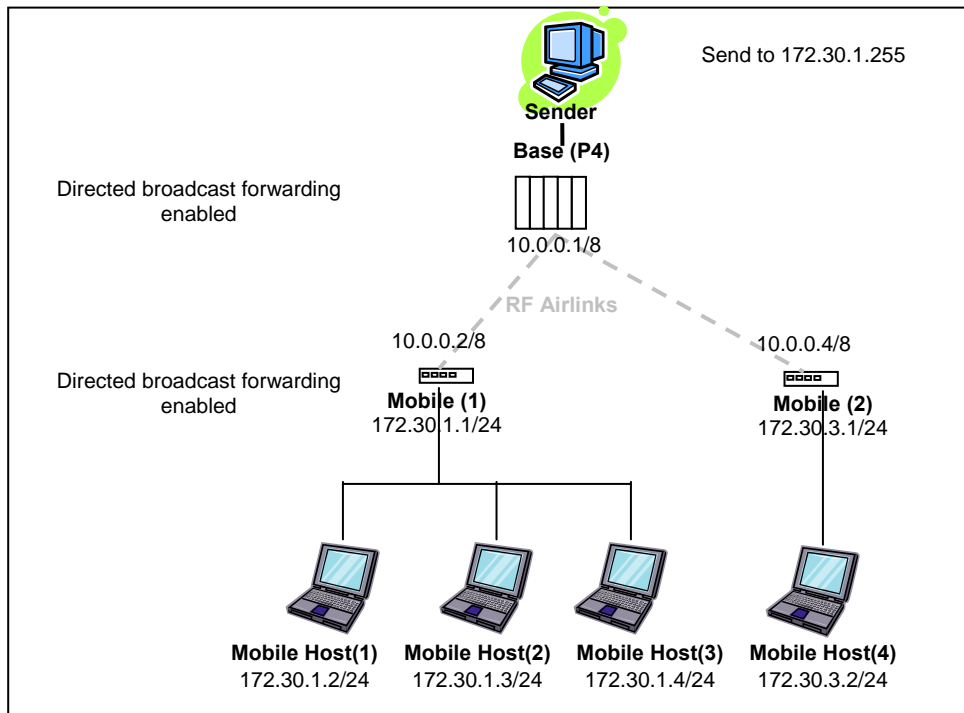

Figure 40 - Example of Directed broadcast forwarding enabled
In this example (Figure 40), directed broadcast forwarding is enabled on the **Base** unit and on **Mobile (1)** unit. If **Sender** wants to reach **Mobile Host (1)**, **Mobile Host (2)** and **Mobile Host (3)** with a single packet, he can send to destination address 172.30.1.255.